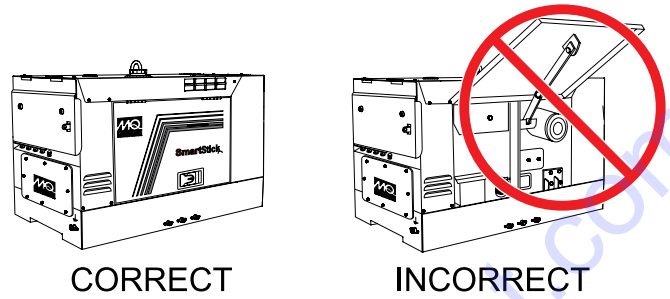

Figure 21. Enclosure Doors (Closed)
3. Close all enclosure doors (Figure 21).